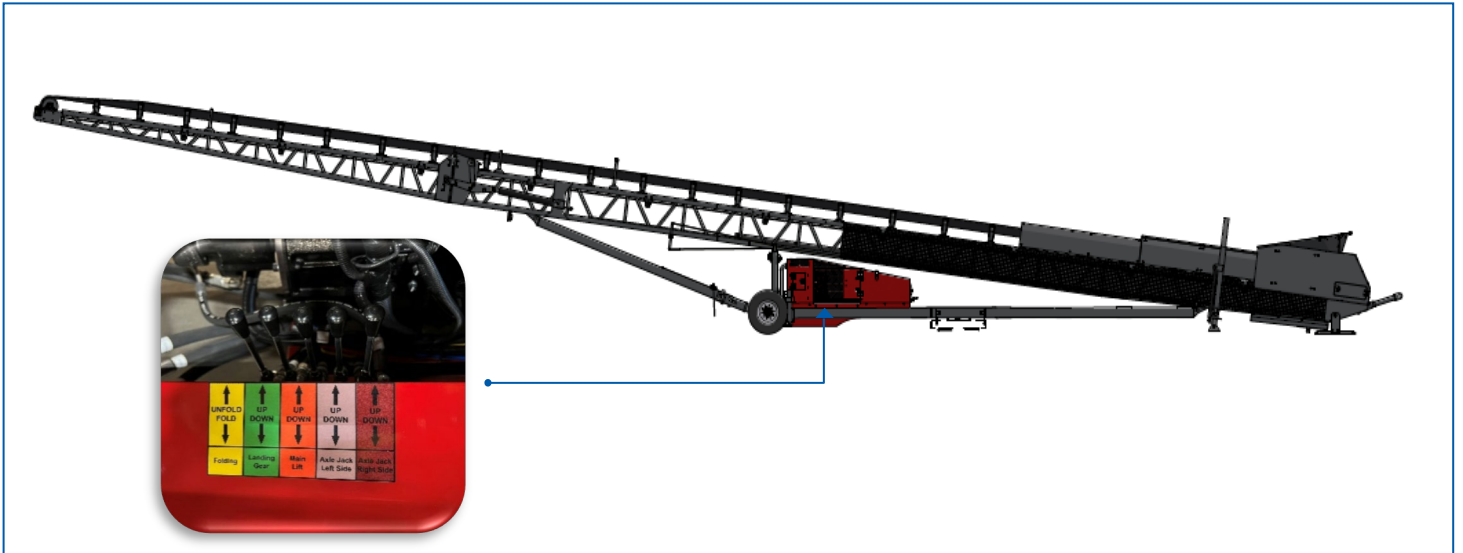
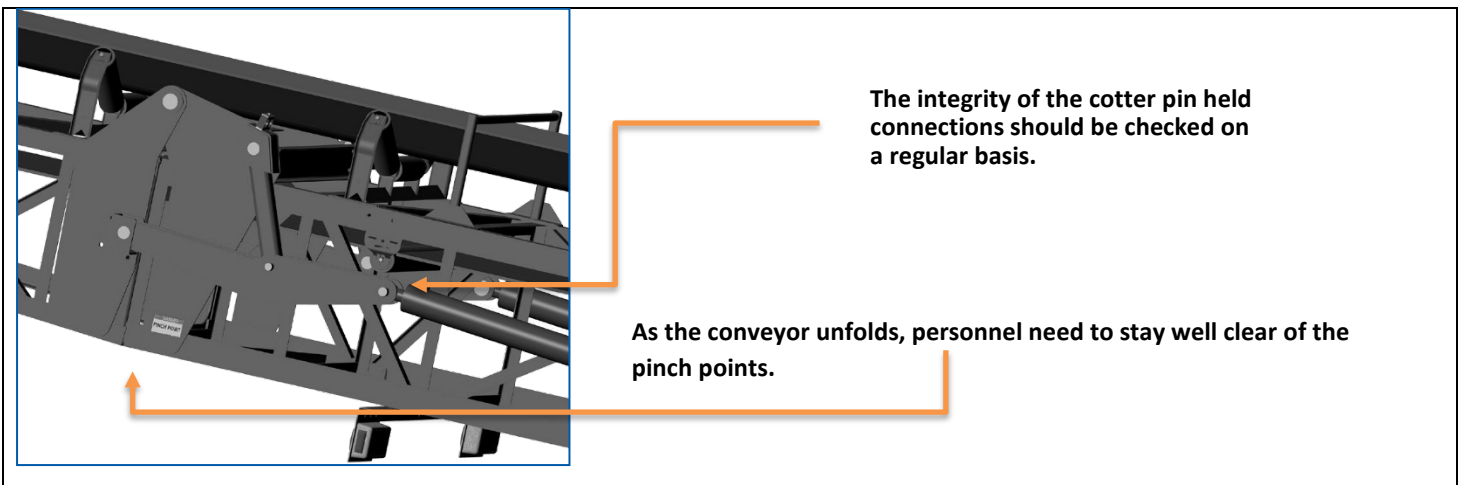
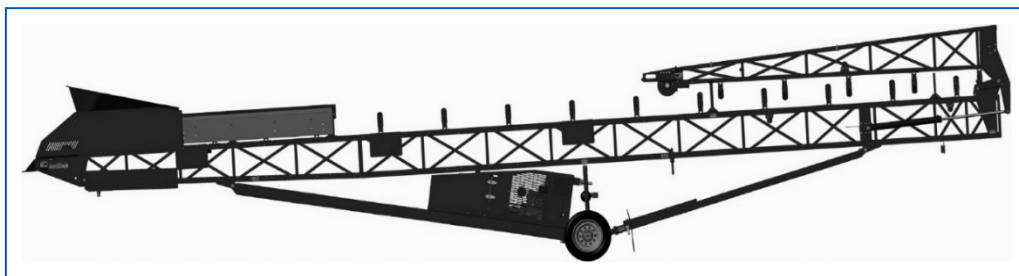

Figure 3: Control Valves
Figure 4: Pinch Points
Figure 8: Travel Position
- 3 Unfold the head frame using the hydraulic controls (Figure 3). Keep all personnel well clear of any pinch points (Figure 4).
3. All control valves (Figure 3) must be in the neutral (mid) – position.
To start the conveyor belt, pull the conveyor control arm (Figure 3).
Fold the conveyor in the travel position (Figure 8), using the hydraulic top fold control valve (Figure 3).